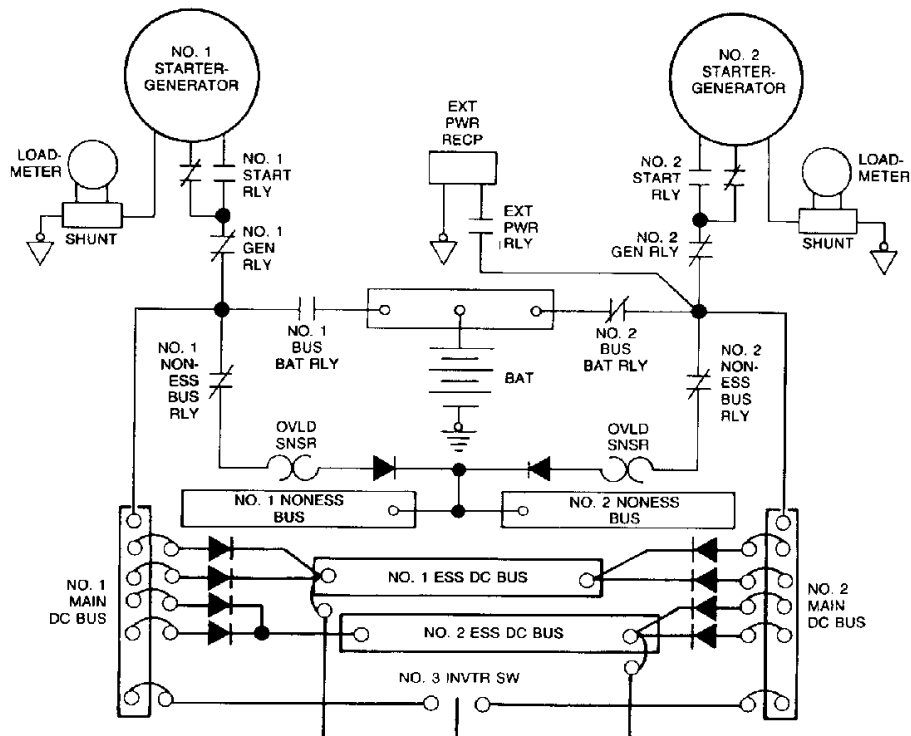

Figure 5-16 Dual-Generator Operation
are provided: (1) the DC GENERATOR caution panel light extinguishes, (2) both DC voltmeters indicate generator output voltage, and (3) the generator's ammeter indicates a very high load due to battery recharging. Figure 5-16 shows generator operation.
With both generators on line, the No. 1 battery bus relay is automatically opened to separate the two electrical systems, and the non-essential buses are automatically powered. Figure 5-16 illustrates dual-generator operation. (The No.1 Battery switch automatically goes to OFF)